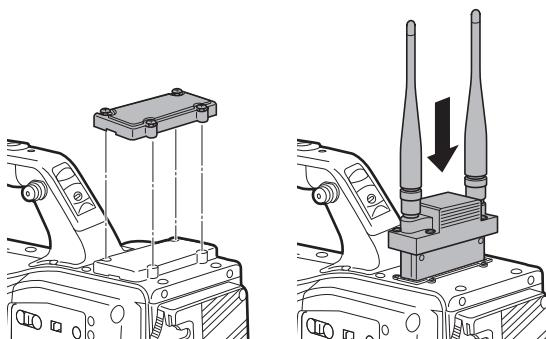

Fig. 1
**1** Remove the cover to insert the wireless microphone receiver and secure it with the screws. (Fig. 1)